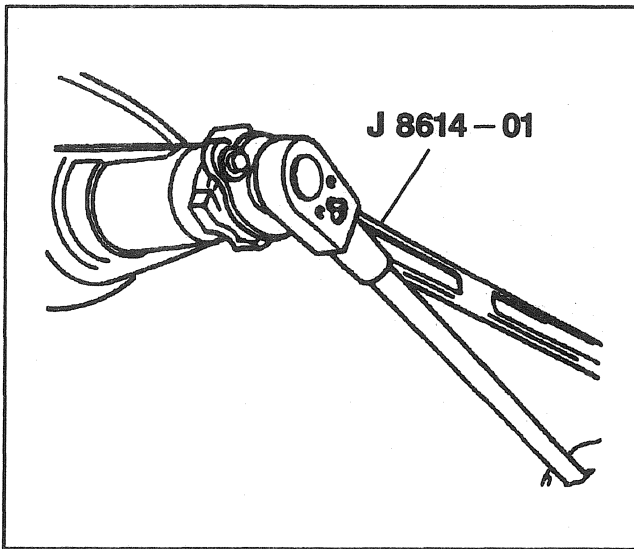

Figure 6—Removing the Drive Pinion Nut
- 16. Pinion flange nut (35) and washer (36) using J 8614-01 to hold the pinion flange (Figure 6).